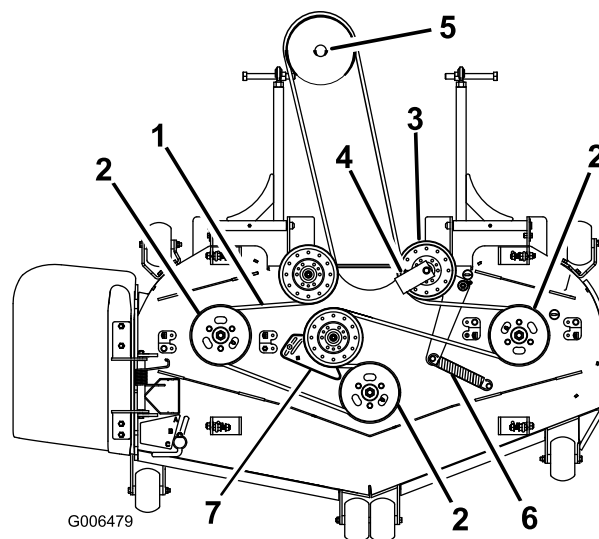

Figure 66
5. Remove the belt guide on the spring loaded idler pulley shown in Figure 66.
7. Install the new belt around the mower pulleys and the gearbox pulley under the engine (Figure 66).
8. Install the belt guide on the spring loaded idler at a 45 degree angle as shown in Figure 66. Torque the bolt to 27 to 33 ft-lb (37 to 45 N-m).
9. Install the idler spring to the two posts (Figure 66).